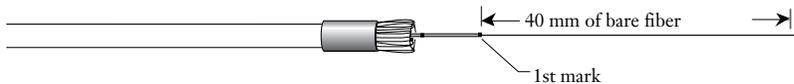

Figure 4-21
- 4.5-9 Remove approximately 40 mm of coating to the first mark with the 203  $\mu\text{m}$  No-Nik tool (Figure 4-21).